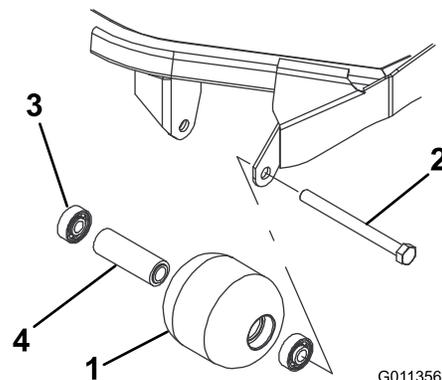

Figure 60
1. Remove the roller mounting bolt (Figure 60).
4. Inspect the roller housing, bearings, and bearing spacer for damage (Figure 60). Replace damaged components and assemble.
1. Press the first bearing into the roller housing (Figure 60). Press on the outer race only or equally on the inner and outer race.
2. Insert the spacer (Figure 60).
3. Press the second bearing into the roller housing (Figure 60) pressing equally on the inner and outer race until the inner race comes in contact with the spacer.